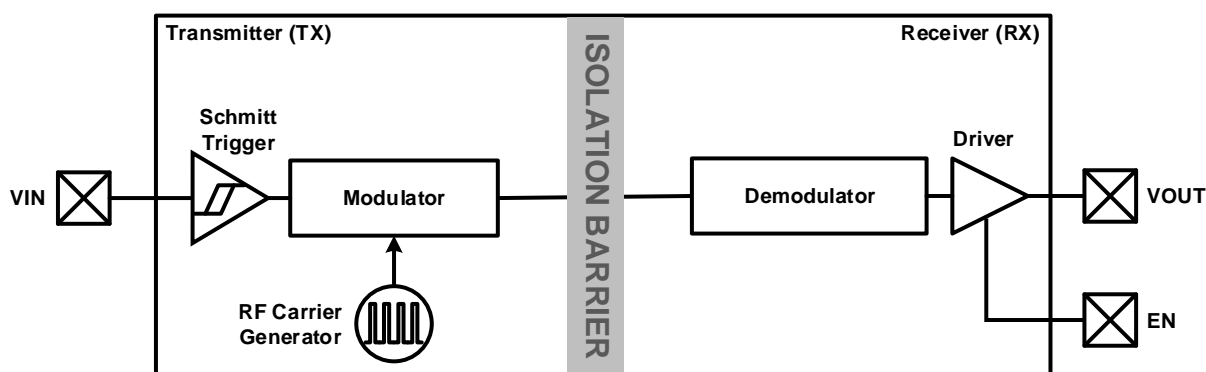
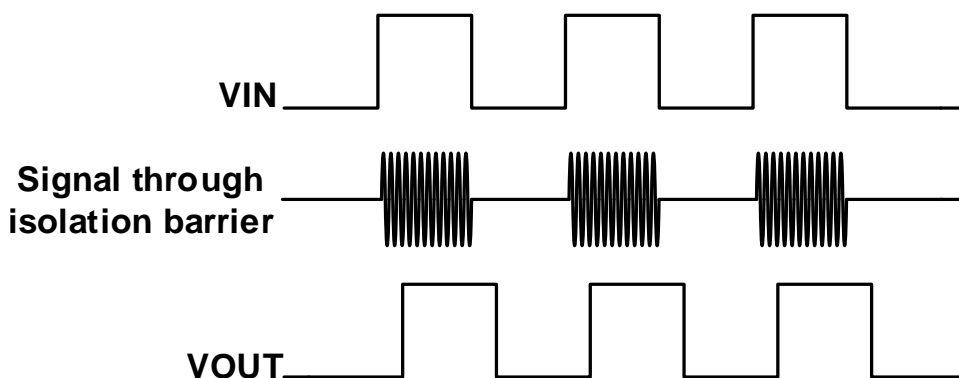

Figure 10-2 Functional Block Diagram of a Single Channel
Figure 10-3 Conceptual Operation Waveforms of a Single Channel
The high-speed isolated data channels use a simple ON-OFF keying (OOK) modulation scheme to transmit signal across the SiO_2 isolation capacitors that provide a robust insulation between two different voltage domain and act as a high frequency signal path between the input and the output. The transmitter (TX) modulates the input signal onto the carrier frequency, that is, TX delivers high frequency signal across the isolation barrier in one input state and delivers no signal across the barrier in the other input state. Then the receiver rebuilds the input signal according to the detected in-band energy. The capacitor-based signal path is fully differential to maximize noise immunity, which is also known as common-mode transient immunity. The capacitively-coupled architecture provides much higher electromagnetic immunity compared to the inductively coupled one. A simplified functional block diagram and conceptual operation waveforms of a single channel is shown in Figure 10-2 and Figure 10-3.